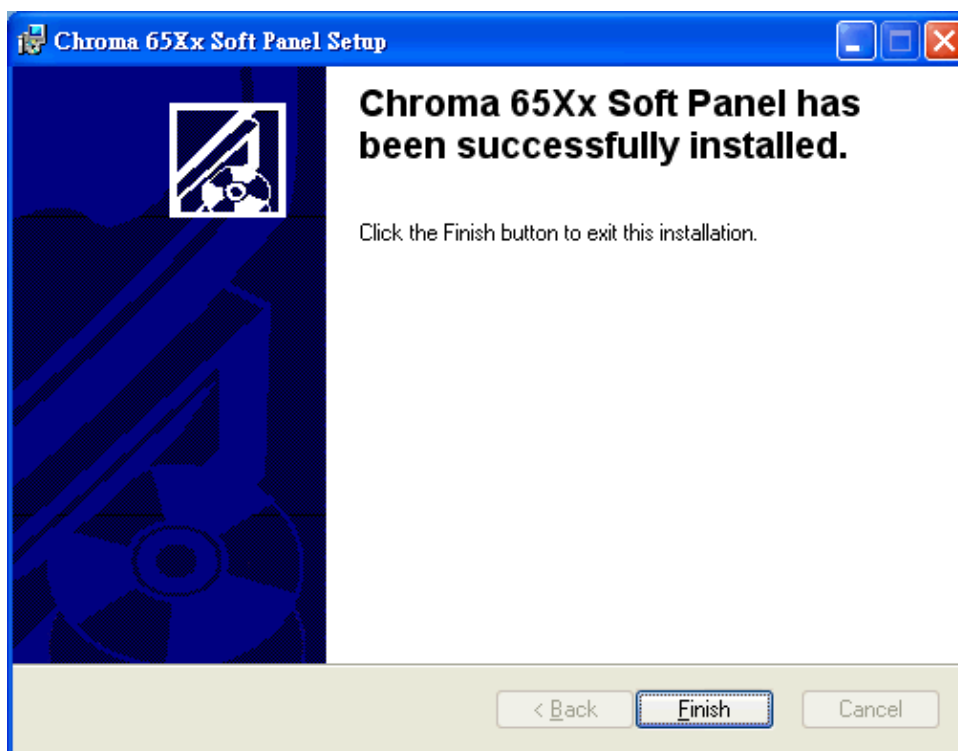

Figure 2-6 Installation Complete Screen
- When the installation is done, the screen appears as Figure 2-6.